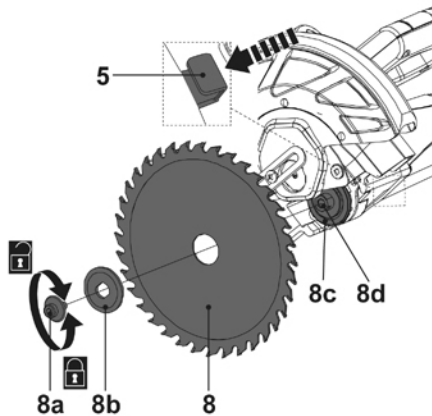

Fig. 14
- > Press the spindle lock button (5) fully and hold it in position (Fig. 14).
- > Turn the clamping screw (8a) slightly with the provided tool (32) until the spindle is locked.
- > Loosen the clamping screw (8a) in clockwise direction and remove it together with the outer flange (8b) and saw blade (8). Do not remove the inner flange (8c) from the spindle (8d).